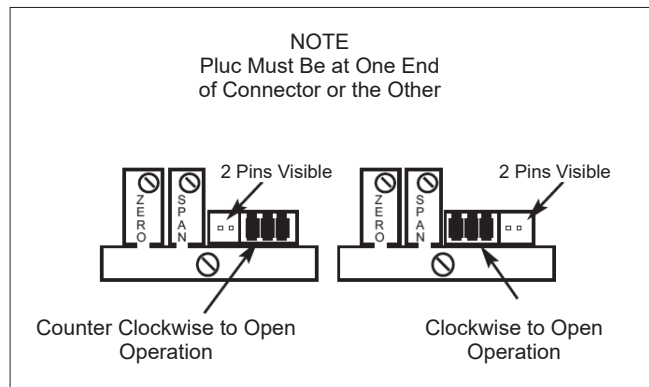

Fig. 39 Plug setting for transmitter operation.
- The potentiometer cable can now be connected back to the transmitter board terminal pins. The positioning of the terminal plug is done according to valve operation orientation (see Fig. 39). The plug must always be aligned to one end or the other of the five pin terminal on the transmitter board.